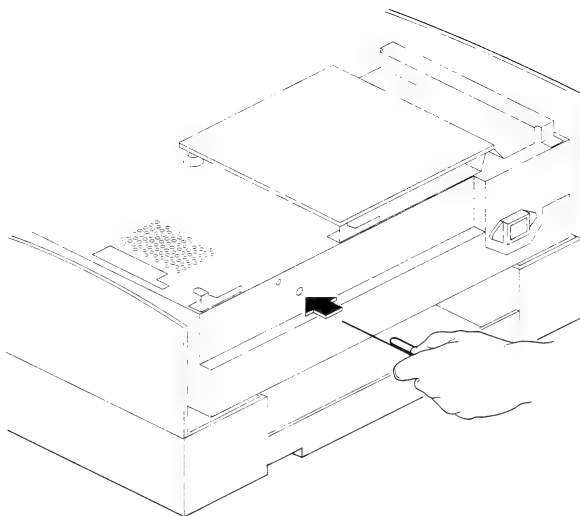

Figure 6 Generating a Service Test Page With I/O Board Intact
3. Insert a straightened paper clip in the hole on the back of the I/O board mount, as shown in Figure 6. Move the paper clip back and forth to jumper P32. Remove the paper clip when you hear the fan come on and the transfer rollers begin to rotate. A few seconds later the test page will appear.